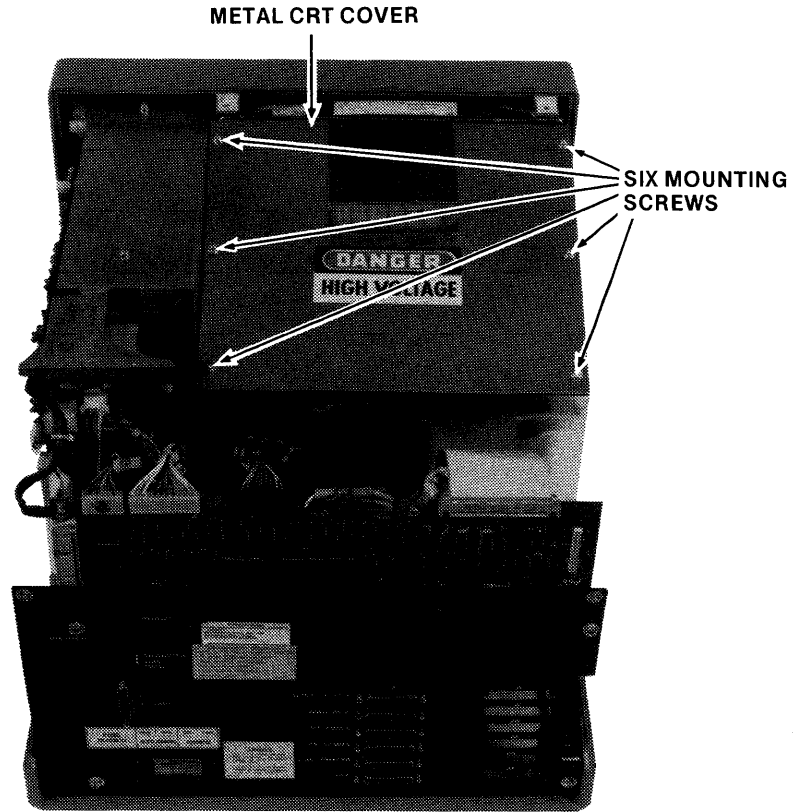
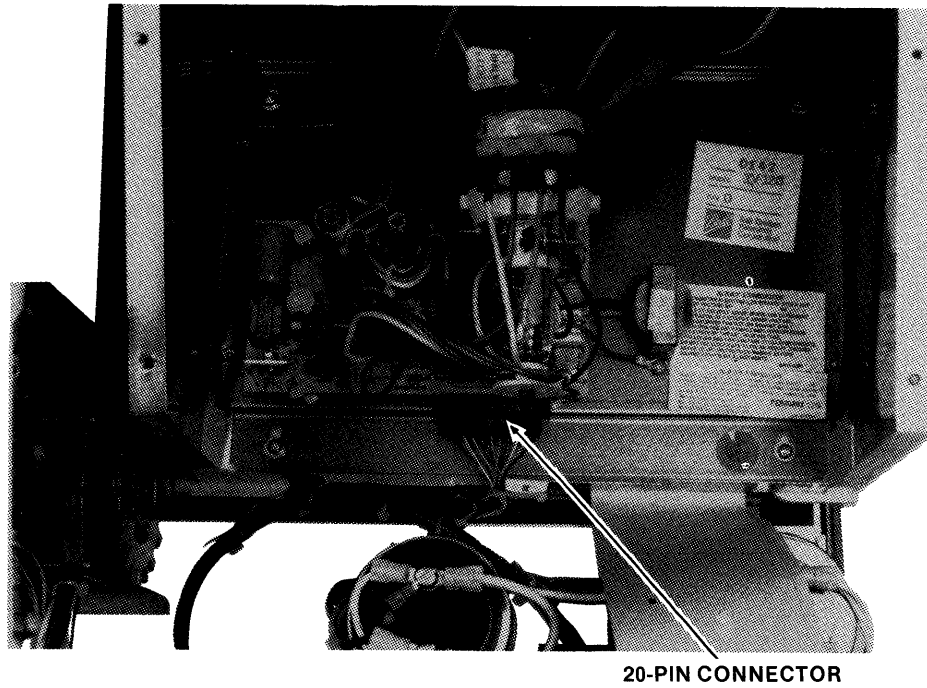

Figure 2-4. Metal CRT Cover
Figure 2-5. CRT Connections
5. Refer to Figure 2-4. Remove the six retaining screws (three to a side) on the metal shelf covering the cathode ray tube. This exposes the CRT and a small circuit board mounted beneath it on the chassis. Refer to Figure 2-5. Carefully remove the 20-pin connector attached to the rear of the board, then push it on firmly to ensure proper seating.